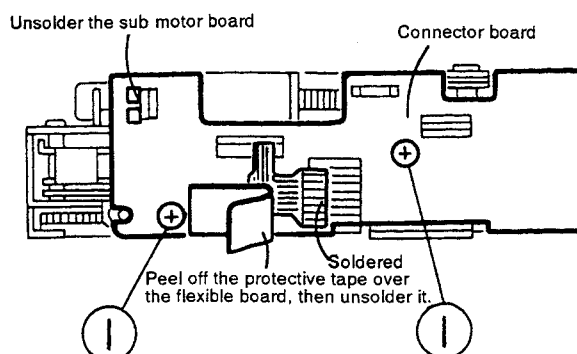

Fig. 4-11 (Viewed from the right side)
■ Connector board (See Fig. 4-11)
- 3) Remove two screws ① securing the connector board, then remove it taking care not to break the flexible board.
■ Load arm ass'y (See Figs. 4-11~4-13)
- 1) Remove the C washer ② securing the load arm ass'y.
- 3) Turn the load arm ass'y in the rear direction, then disengage the load arm from the catch (K).
- 5) Remove two screws ③ securing the sub chassis.